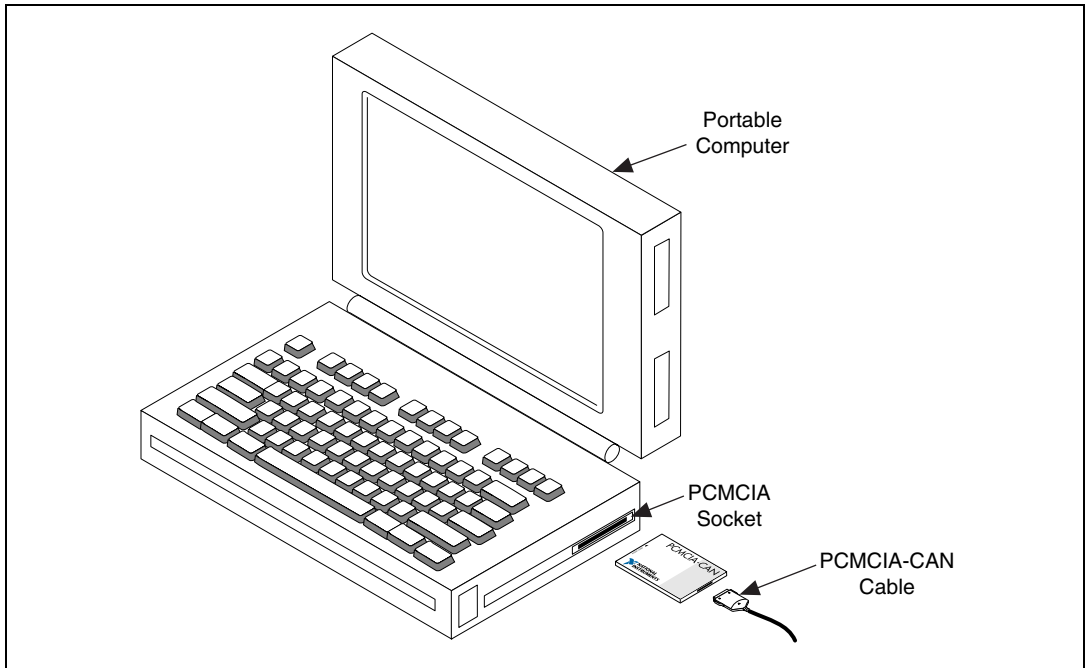

Figure 3. Inserting the PCMCIA-CAN
2. Insert the card into a free PC Card (PCMCIA) socket. The card has no jumpers or switches to set. Figure 3 shows how to insert the card and how to connect a PCMCIA-CAN cable to the card.